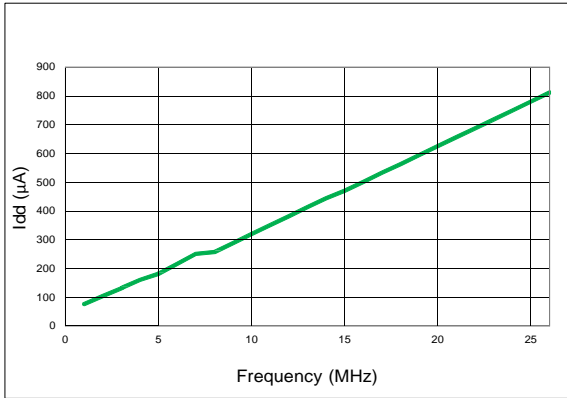
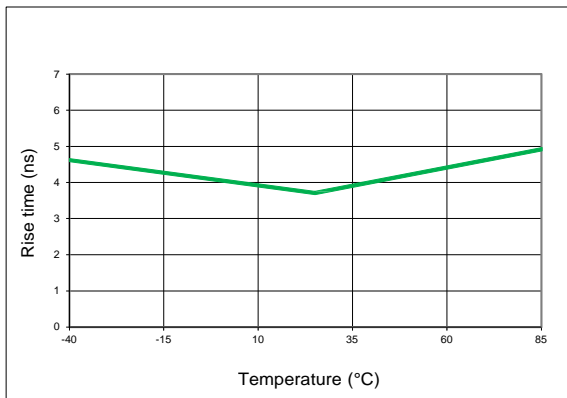

Figure 8. Idd vs Frequency^[7]
Figure 12. Rise Time vs Temperature^[7]
- 7. For Figure 8, data is measured with 10 pF load. For Figures 12 and 13, data is measured with 15 pF load.